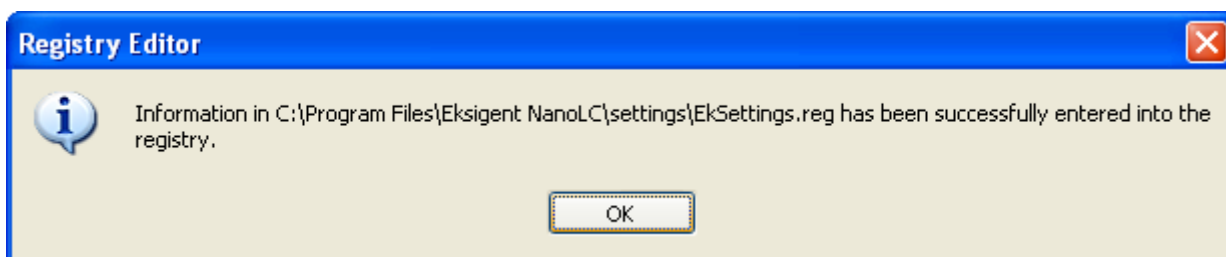

Figure 2-5. Second Registry Prompt Window
- step 5* Click **Yes**. A second window will popup indicating that you have successfully written to the registry (Figure 2-5).